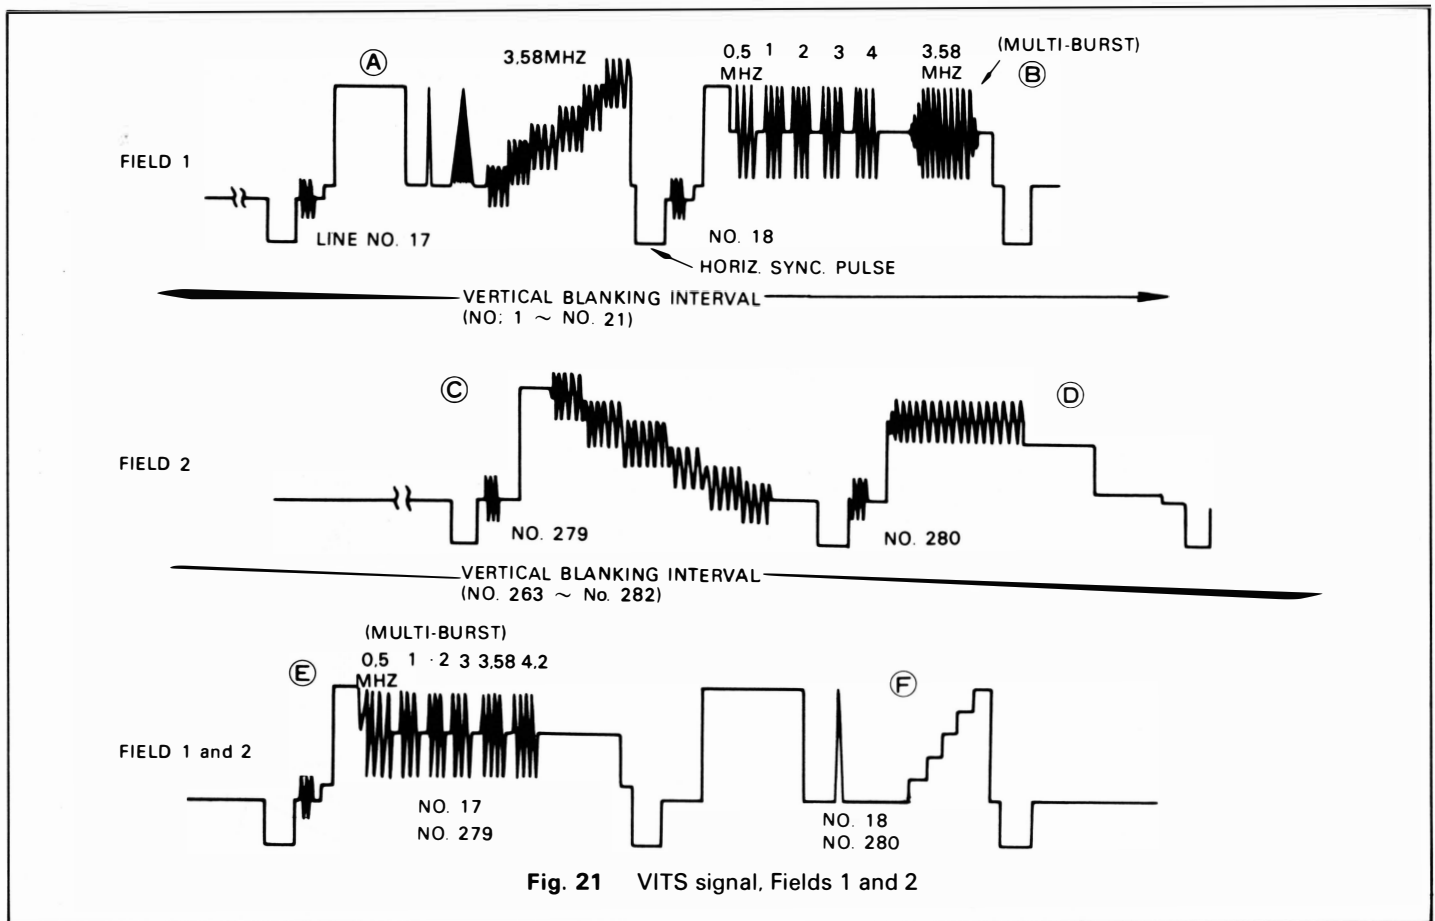

Fig. 21 VITS signal, Fields 1 and 2
The transmitted VITS is precision sequence of a specific frequencies, amplitudes and waveshapes as shown in Fig. 21. The television networks use precision signals for adjustment and checking of network transmission equipment, but technician can use them to evaluate television performance. The first frame of VITS at the "B"
section (line 18) in Fig. 21 begins with a white reference signal, followed by sine wave frequencies of 0.5 MHz, 1.0 MHz, 2 MHz, 3 MHz, 4.0 MHz and 3.58 MHz. This sequence of frequencies is called the "multi-burst".
10. Pull the ◀ POSITION control outward to obtain an additional X5 magnification. Rotate the control in a counterclockwise direction moving the trace to the left until the expanded VITS information appears as shown in Fig. 21. Because of the low repetition rate and the high sweep speed combination, the brightness level of the signal displays will be reduced.